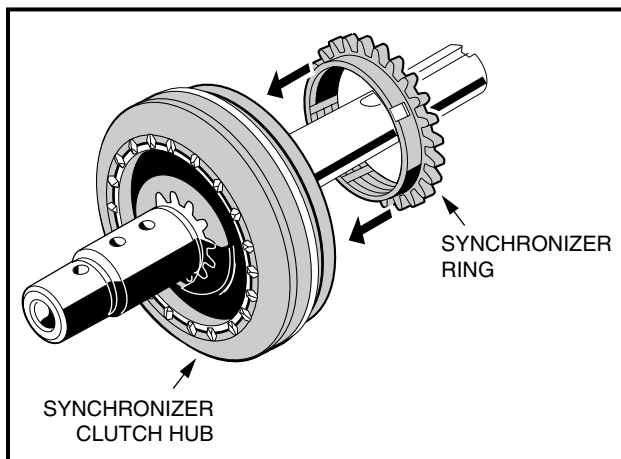

Figure 16b-68 Synchronizer Ring
11. Install the narrow bearing (47), wide bearing (46), and input gear (45) onto the shaft. The smooth collar of the input gear should be oriented toward the synchronizer ring as shown (**Figure 16b-50, Page 16b-23**). The gear should seat inside the ring.
12. Install thrust plate (44) onto the shaft, and the dowel pin (53) into the shaft as shown.
13. Install the spur (governor drive) gear (43) onto the shaft with either side down. Mate the notch in the gear with the dowel pin as shown.
14. Install the spring washer (42) onto shaft with the raised center toward the end of the shaft.